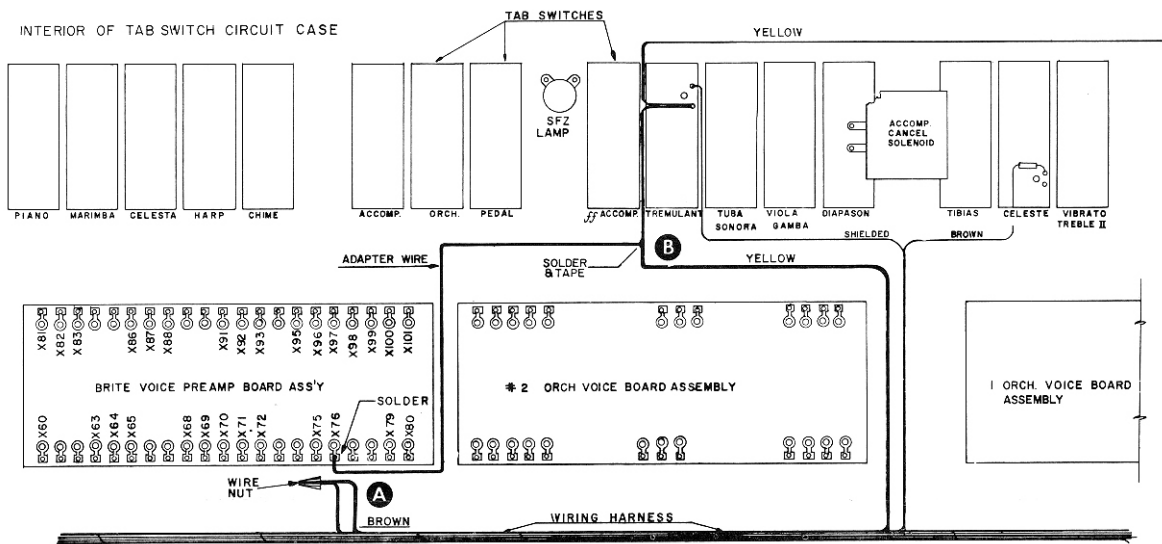

Fig. 1
3. Remove the two brown wires from terminal "X76" of the Brite Voice Preamp Board Assembly. Connect these wires together with the wire nut provided. (See "A" on Fig. 1)
4. Solder one end of the adapter wire provided in hardware package to terminal "X76" of the Brite Voice Preamp Board Assembly. (See "A" on Fig. 1)
5. Strip approximately 1/4 inch of insulation away from one of the yellow wires attached to the "Tremulant" tab in the 8' Accompaniment Tab Bank. Solder the other end of the adapter wire to this wire. Insulate with plastic tape. (See "B" on Fig. 1) Replace the shield, top and back panel.